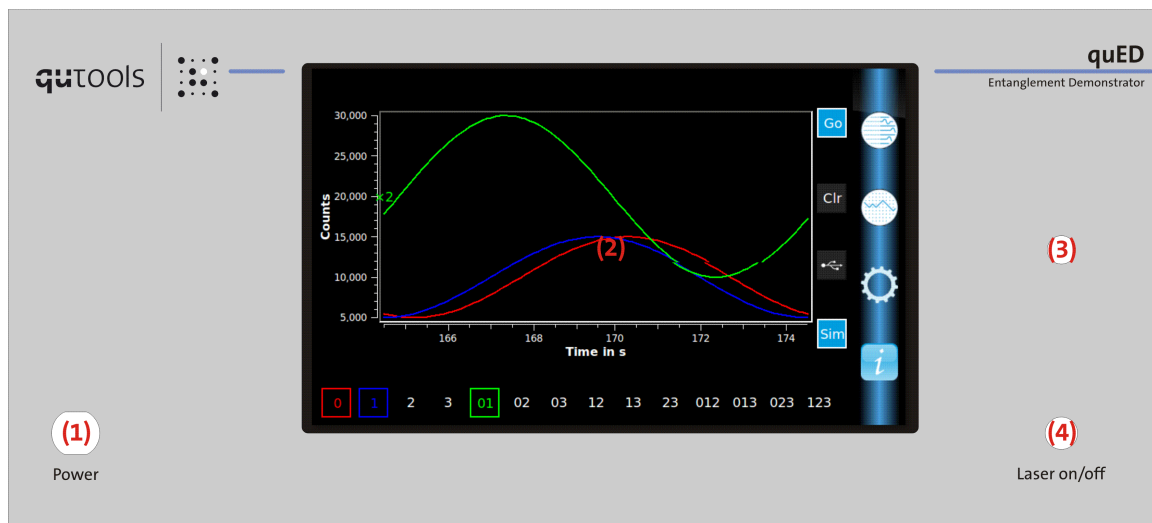

Figure 1: The front panel of the quED controller. Power key switch (1), touch panel (2), rotary encoder (3), laser on/off switch (4).
To switch on the system, please make sure that a suitable power cord is plugged into the socket (see figure 2 (11)) and supplied with 100..230 V, 50..60 Hz AC. Then, switch on the key switch (see figure 1 (1)). Please note that even when the key switch is in the off position, the controller may still consume some power. To ensure that the controller is switched off completely, please unplug the power cord from the controller socket.
The front panel (see Fig. 1) consists of only a few elements: